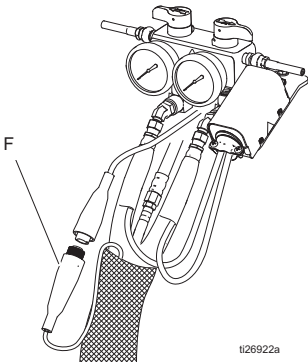

FIG. 9. Heated Hose
3. Disconnect FTS cable (F) at Reactor, FIG. 9.